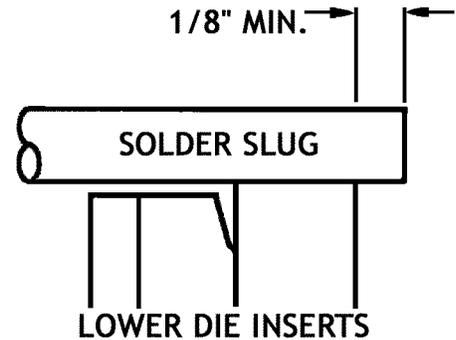

Fig. 4
3. Insert the proper diameter size solder (as listed in the **Reel Smart™ System Reference Table** above) between die inserts so it extends about 1/8" beyond the back of the die inserts (See Figure 4).